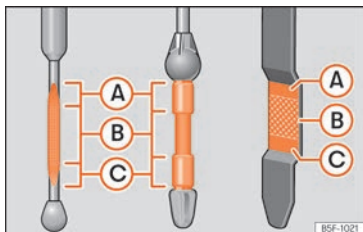

**Fig. 287** Engine oil dipstick.
- Then pull it out once more and check the oil level »» **Fig. 287**. Top up with engine oil if necessary.
If the oil level is above area »» Fig. 287 Ⓐ, do not start the engine. This could result in damage to the engine and catalytic converter. Contact a specialised workshop.
The oil level must never be above zone »» Fig. 287 Ⓐ. Otherwise oil can be drawn in through the crankcase breather and leak into the atmosphere via the exhaust system.